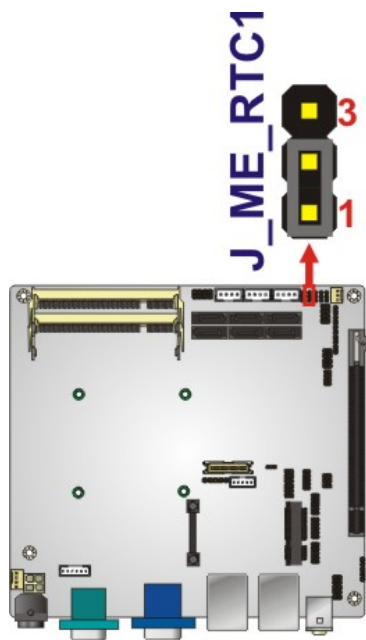

Figure 4-11: ME RTC Register Jumper Location
- Jumper Location:** See **Figure 4-11**